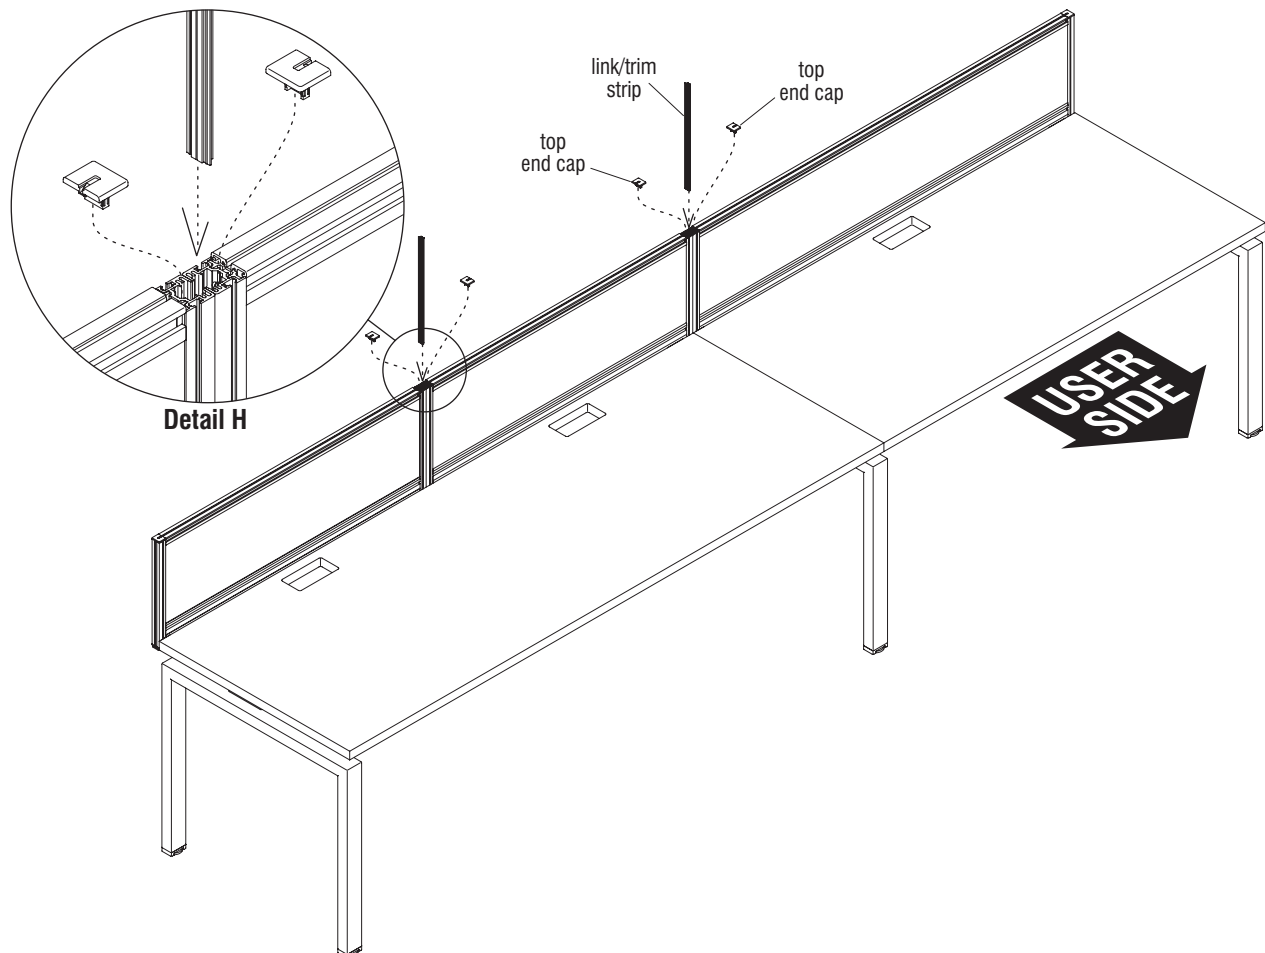

Figure 2 - Single-Sided Fixed Benching - Privacy Screens Installation
5. Where privacy screens are mounted on inline brackets, take one previously removed link/trim strip and insert it down through both frames extrusions such that the strip joins both frames together. Discard the unused link/trim strips (Figure 2, Detail H).